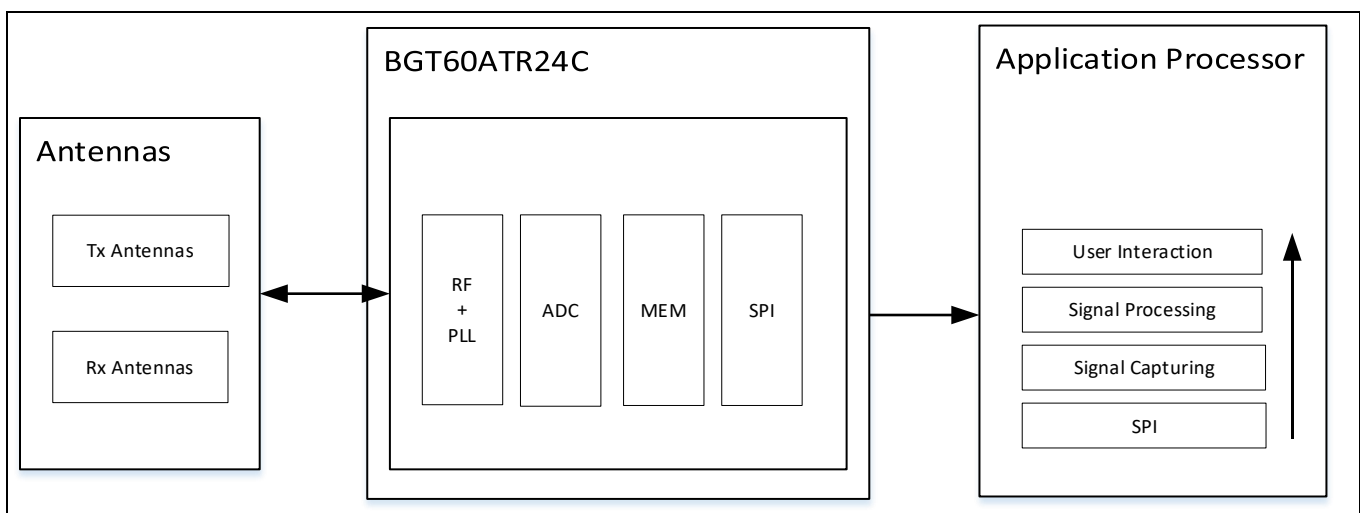

Figure 1 Data flow in the complete radar sensor system
The core functionality of BGT60ATR24C is to transmit frequency modulated continuous wave (FMCW) signal via one of the two transmitter channels (TX) and receive the echo signals from the target object on the four receiving channels (RX). Each receiver path includes a baseband filtering, a VGA, as well as an ADC. The digitized output is stored in a FIFO. The data is transferred to an external host, microcontroller unit (MCU) or application processor (AP), to run radar signal processing. A typical implementation of a sensor system consists of two main blocks only (see Figure 1):